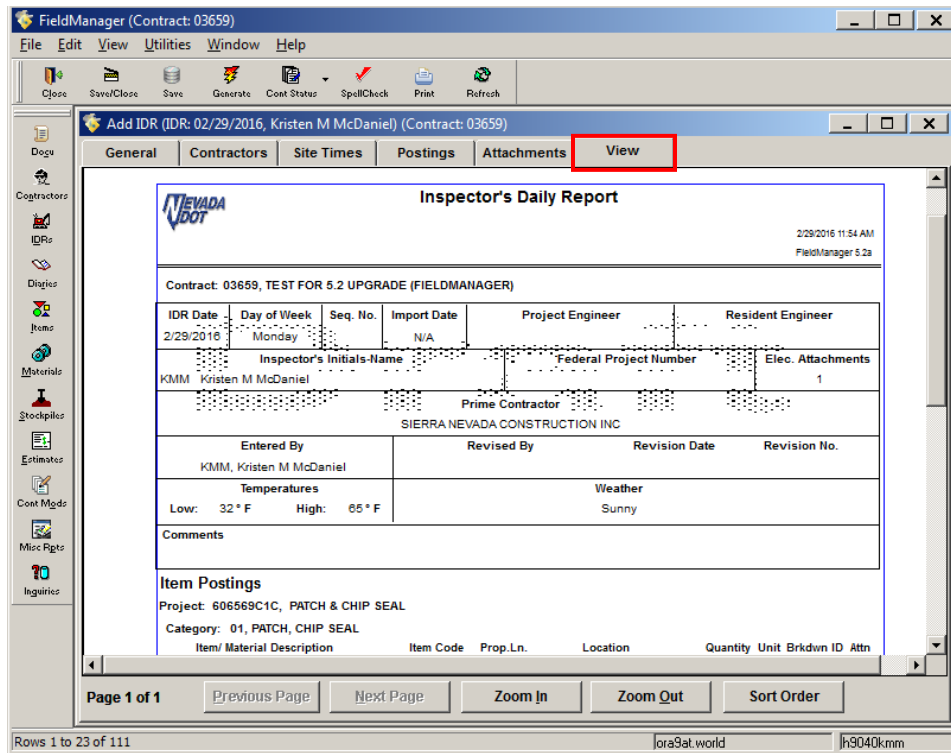

Figure 7-8. Add IDR Window – View Tab (Inspector’s Daily Report)
1. Click on the **View** tab to open the Draft copy of the Inspector's Daily Report (Figure 7-8). It is a good idea to use the View tab to check the information on a draft IDR.